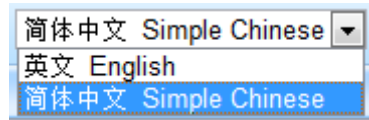

Fig.3 Operation language pull-down list
1. Construct your hardware environment, including chassis installation, power supply system deployment, and connecting switches, GQ-3670C, the preceding device(s)(e.g. IRD, encoders, etc.), terminal receivers (DVB-C), TV monitors, management workstation and CAS server properly (refer to Fig. 3).